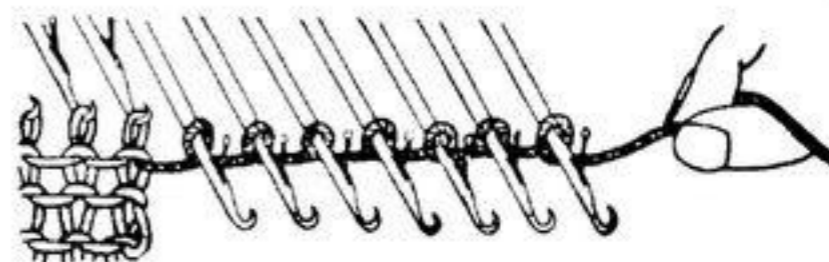

Fig. 39
- (b) Wrap the yarn from the feeder around the stem of each of these needles as shown in Fig. 39, making sure that all the loops are behind the open latches.